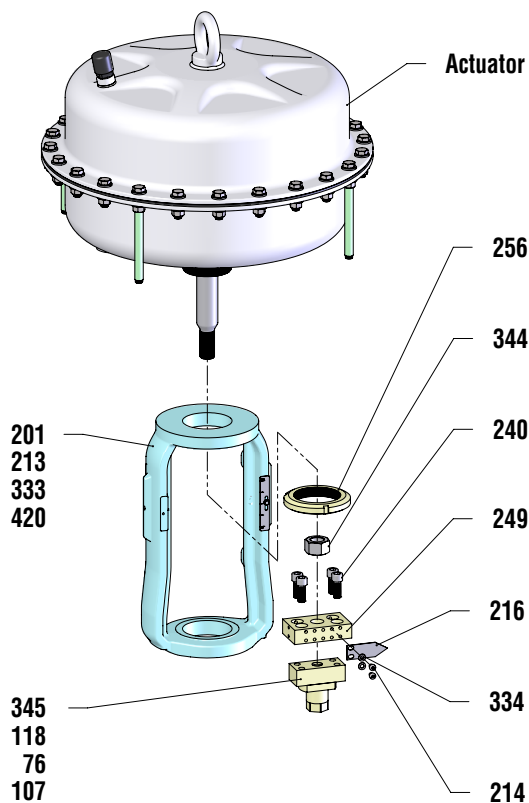

Figure 31: Coupling parts
9. If necessary mount actuator onto the yoke (201) put in line with the mark and tighten the actuator locknut (256) counter-clockwise. The vent plug shall be at a right angle to the yoke legs (see figure 31).
10. Screw in the lock nut (344) and the actuator coupling (249) - screw-in depth once thread diameter - counter-clockwise and fix it. Aligning the coupling parallel to the yoke.
11. Mount the stroke indicator (216), plain washers (334) and the socket head screws (214) clockwise.